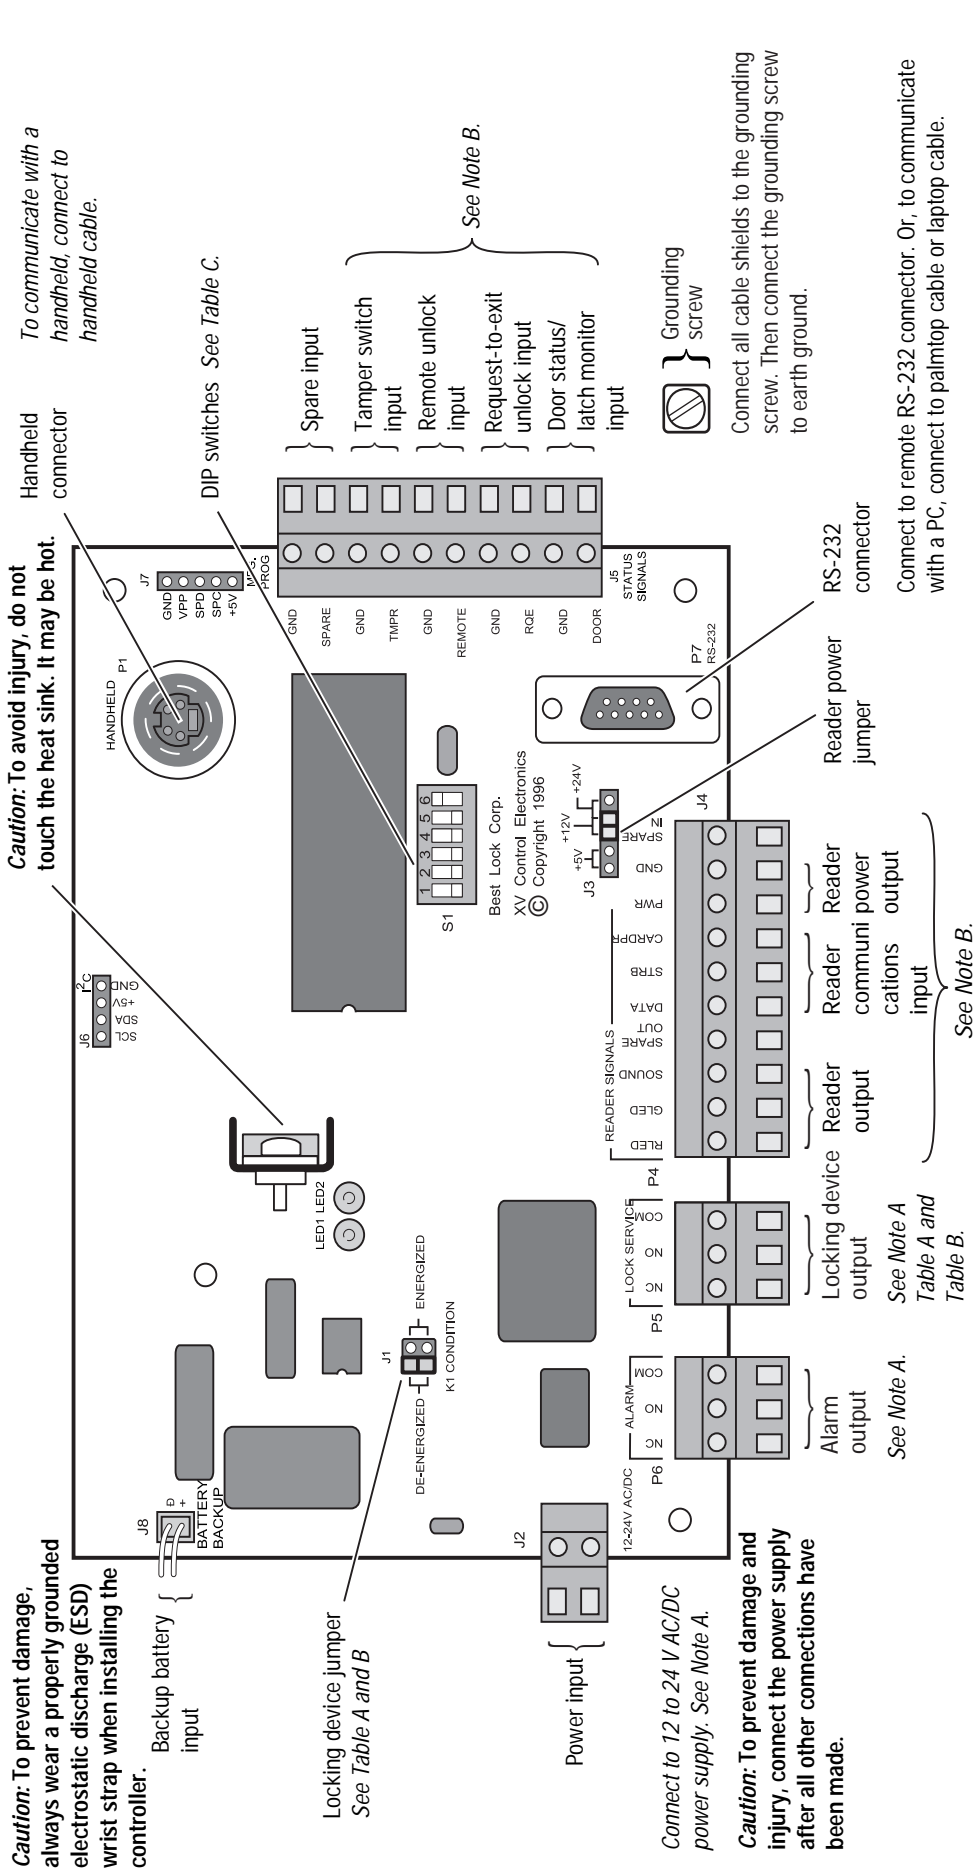

Figure 1—Controller board wiring diagram
Note: *Wire gauge and length requirements for each device to be connected to the controller are included in Figure 1.*
You can connect the devices listed below to the controller board. Refer to Table 1 and to Figure 1.
Connect the 12 to 24 volts AC or DC at 0.75 amp power supply to the controller board's power input. Refer to Table 1 and to Figure 1.
- a Connect the handheld cable to the controller's handheld connector, shown in Figure 1.
- a Connect the palmtop cable or laptop cable to the controller's remote RS-232 connector or to the RS-232 connector on the controller board, shown in Figure 1.